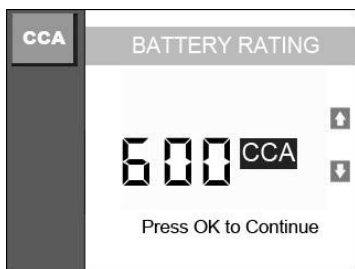

Figure 9.4
7. For example, select CCA in the list and press **OK** button to continue. Then the screen shows as Figure 9.4. Press the **UP/DOWN** scroll button to increase or decrease rating units by 20 units and then press **OK** button to confirm.